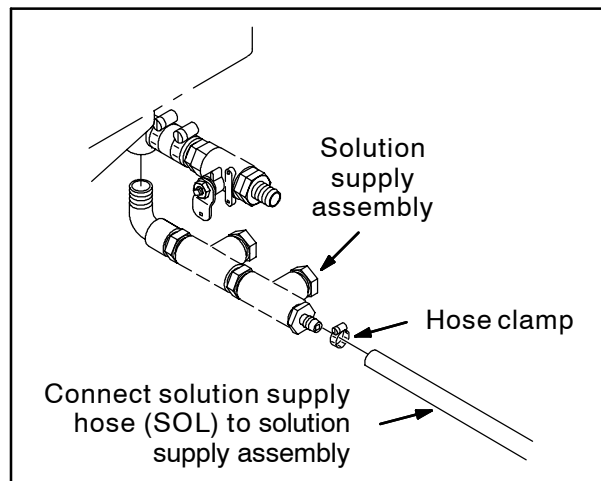

FIG. 8
9. Route the hose labeled SOL to the solution supply assembly and use a hose clamp to secure the hose to the solution supply assembly. Refer to Fig. 8.